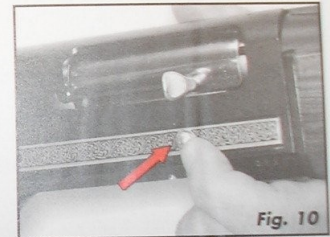

Fig. 10
9. Close the bolt by pushing the carrier release (Fig. 10).